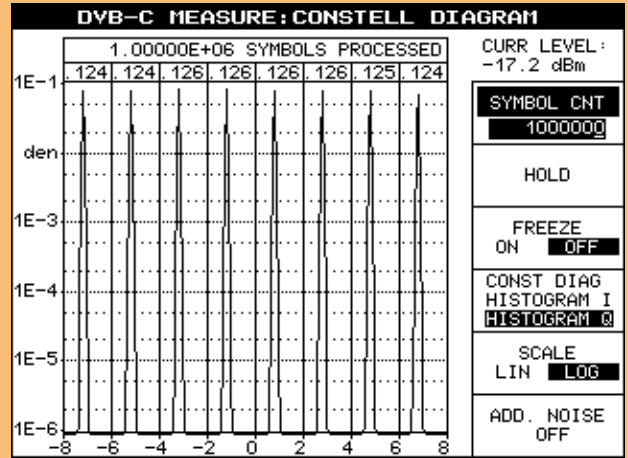

Fig. 5: QAM modulation parameters
- ◆ I/Q parameters, modulation error ratio (MER), error vector magnitude (EVM), phase jitter and signal-to-noise ratio (Fig. 5)